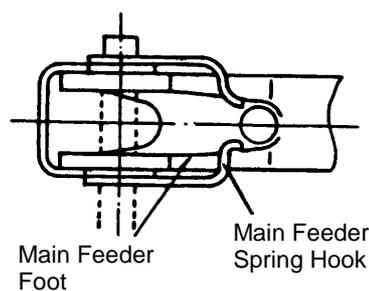

Fig. 24 Installing Main feeder spring
At this time, ensure that the Main Feeder Spring (30) spring hook section securely catches on the foot of the Main Feeder (34), as illustrated in Fig. 24.
- For assembly of the Body (23) and Magazine (81), please refer to section 1-1.